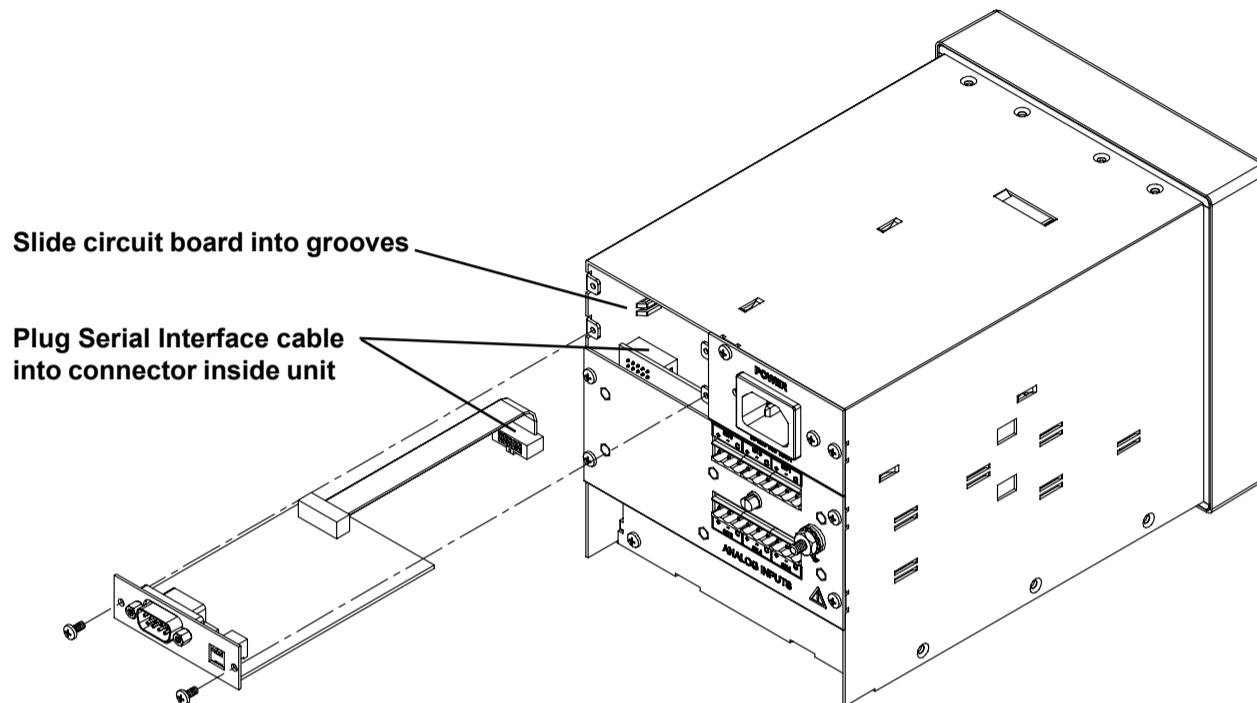

Figure 2 Serial Interface Board Installation
2. Reaching into the hole where the blanking panels were removed, connect the cable from the Serial Interface board to the connector on the back side of the backplane board (see Figure 2).